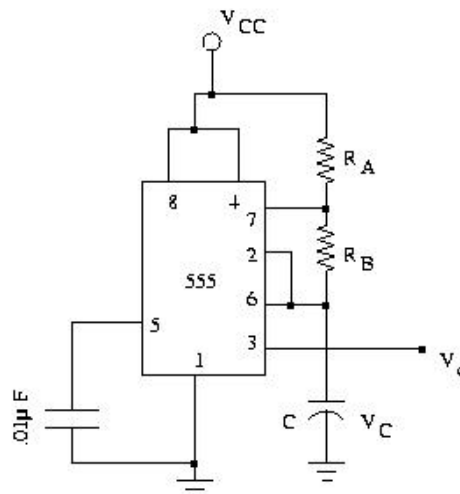

Fig: 6.2. Astable M.V. ($R_A=1\text{k}\Omega$, $R_B=3.3\text{k}\Omega$, $10\text{k}\Omega$, $18\text{k}\Omega$)
2. Assemble the astable circuit shown in Fig.6.2. Trace the output waveform. Try to use the control voltage terminal and vary the output pulse width and observe the output